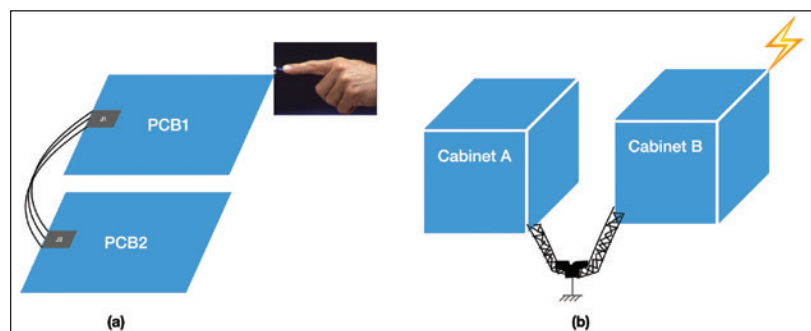

Figure 1: Typical cases of structural resonances; (a) Two PCBs with a wire connection; (b) Two cabinets with the same ground point.
1. There needs to be a resonant structure. In electrical terms, this means an undamped/lightly damped L-C circuit. Physically, this could mean anything in an electrical system. Two typical cases are shown in Figure 1. As shown, two PCBs that have a cable connection represent an L-C circuit where the inductive component L depends on the length of the cable and the capacitance component C depends on the structure of the PCBs (areas and the distance between the PCBs). For larger system installations such as the one shown in Figure 1(b), L depends on the length of the ground leads of each cabinet and C depends on the area of the side wall of the cabinet and the distance between the two cabinets.
source could be an external RF field, an ESD event, or a lightning strike, as shown in Figure 1.